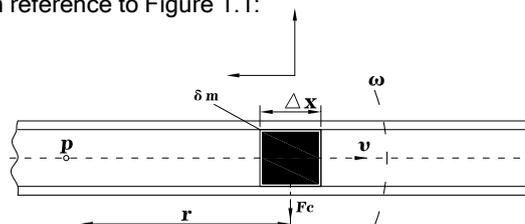

Figure 1-1
If a pipe is rotated around a point (P) while liquid is flowing through it (toward or away from the center of rotation), that fluid will generate an inertial force, with reference to Figure 1.1:
The force generated by tangential acceleration is Coriolis force, its value is equal to  $F_c = 2\omega v \delta m$ . In figure 1.1 fluid  $\delta m = \rho A \times \Delta X$ , So Coriolis force can be expressed as: